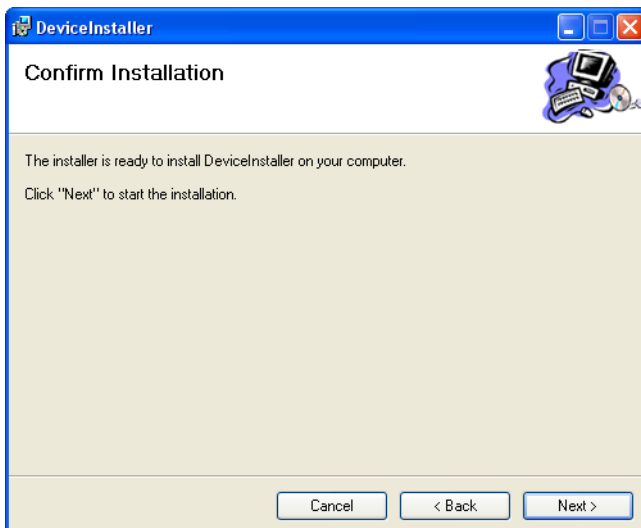

Figure 15: Confirm Installation of DeviceInstaller
8. Click on the button. A confirm installation window appears (see Figure 15).